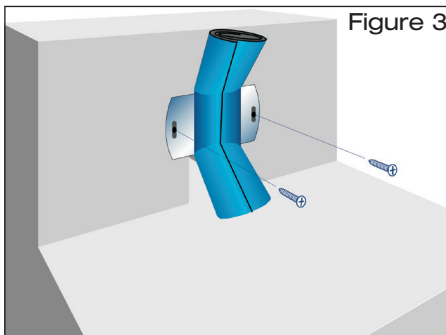

Figure 3
- 1.3 Fasten the sliding flange (with the connecting sleeve rolled up) using a screwdriver for slotted screws (Fig. 3).